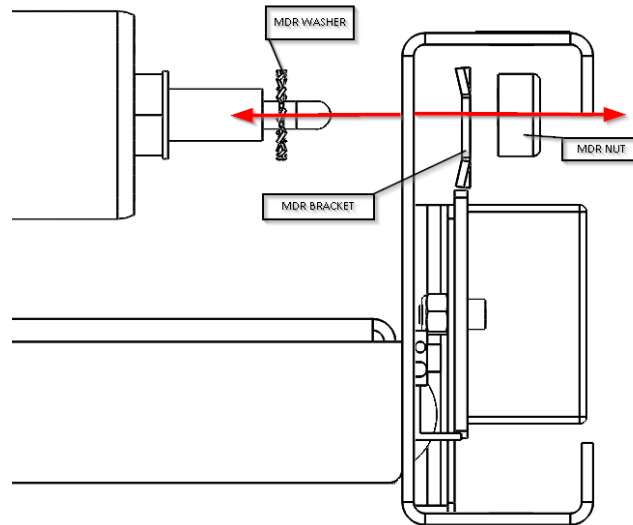

Figure 6: MDR Removal-1
4. Pull the MDR bracket away from the frame. (Refer to Figure 6)